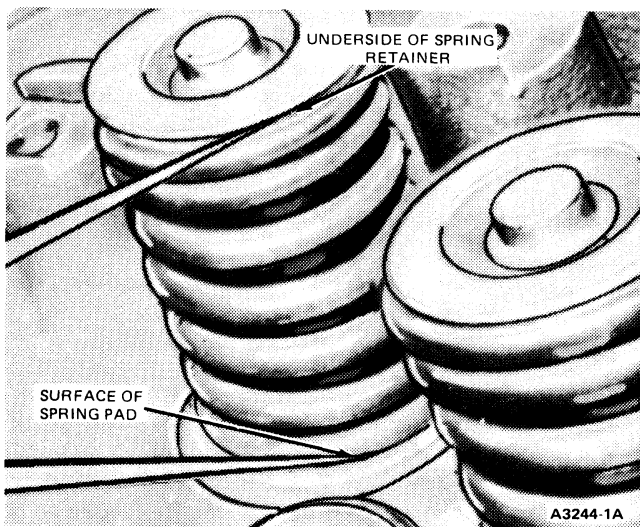

FIG. 39 Measuring Valve Spring Assembled Height
3. With dividers, measure assembled height of valve spring from surface of spring pad on cylinder head to underside of spring retainer (Fig. 39). Check dividers with accurate scale. If assembled height exceeds specification listed at the end of this Part, install spacer(s) below spring to reduce height to recommended dimension. **Reducing assembled height below specifications can cause spring breakage and rapid wear of cam lobe.**